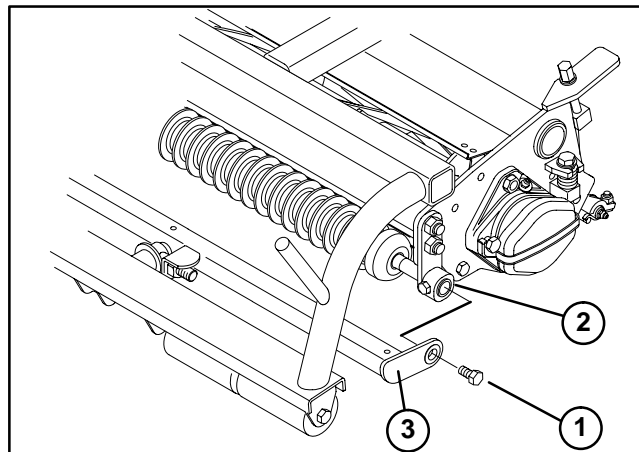

Figure 26
3. If keeping the cutting unit on the lift arm, remove both shoulder bolts securing the front brackets to the pull frame (Fig. 26).
6. If the cutting unit was kept on the lift arm, attach the front brackets to the pull frame by securing with both shoulder bolts (Fig. 26).